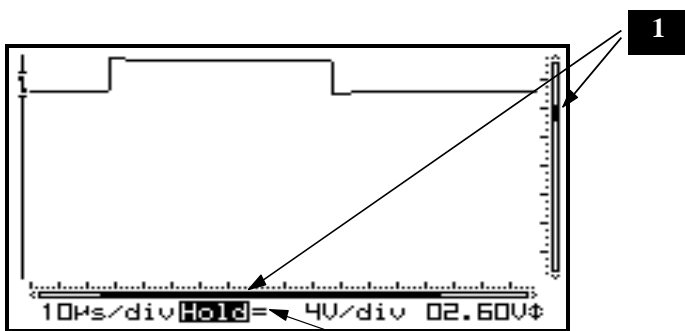

Fig 30
A black bar (1) indicates the relative position of the signal in the sample window, see fig. 30. (**Only for HPS40**)